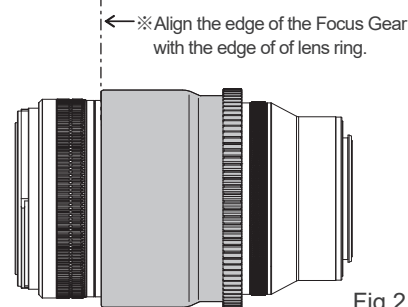

Fig.2
- Push the gear down as shown. (Fig.2)